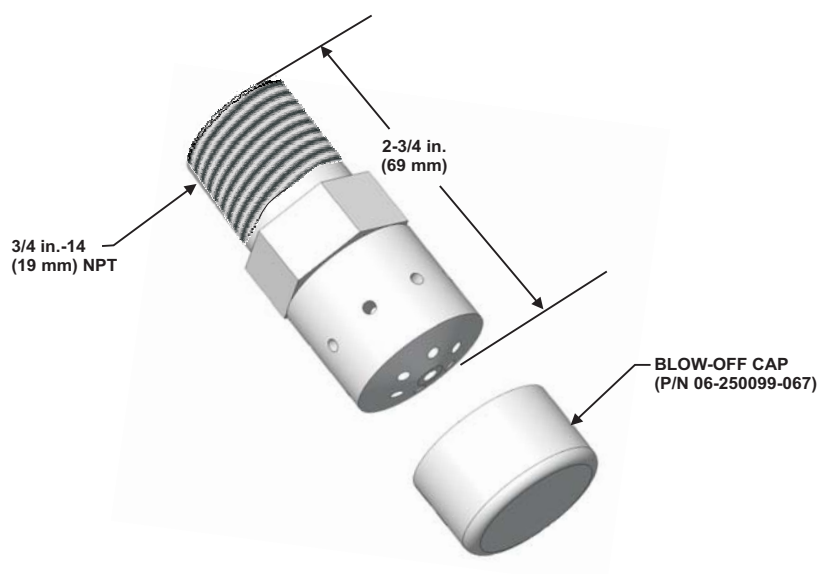

Figure 2-8. Total-Flooding Nozzle, P/N 83-100005-001
The Total-Flooding (TF) Nozzle, shown in Figure 2-8, is designed to discharge dry chemical throughout an enclosed area. The TF Nozzle is used for non-spray type applications as well as enclosed and open-face applications.